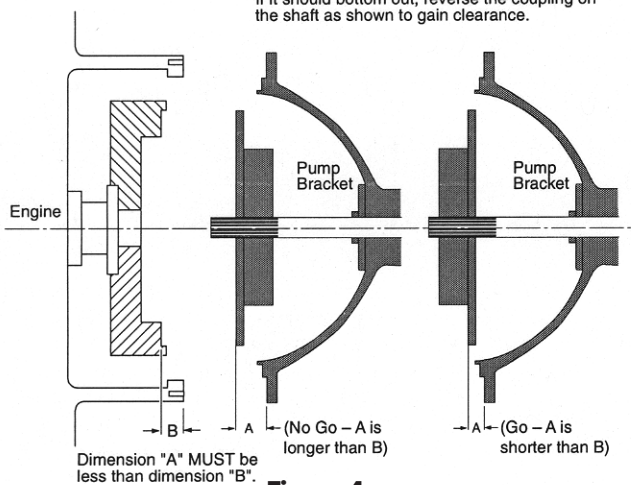

Figure 4
- Measure the distance from the engine side of the flywheel coupling adapter ring to the mounting face of the pump bracket. Refer to Figure 4 below, **Dimension "A"**.
- Next, measure depth from face of flywheel housing on engine, to face on flywheel against which coupling will be bolted. Refer to Figure 4 below, **Dimension "B"**.